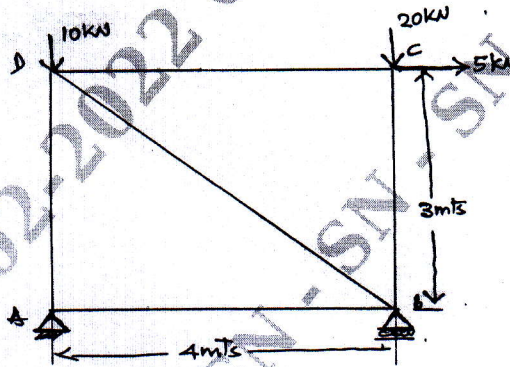

Fig Q10(a)
- 10 a. Analyse the truss shown in Fig Q10(a) by "Method of Joints" Indicate the nature of force on the truss.